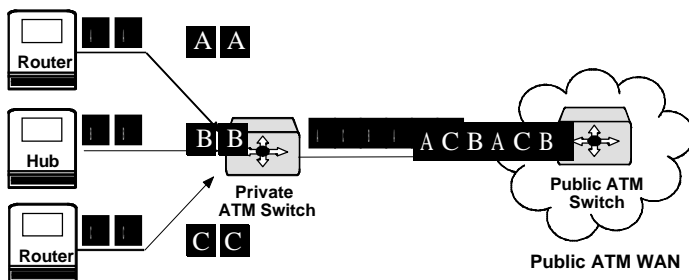

Figure 42. ATM Cell Stream
The operation of an ATM switch is very simple. ATM cells arrive on an ATM switch's interface containing a particular Virtual Path Identifier (VPI) and Virtual Channel Identifier (VCI) pair in its 5-byte header. This information uniquely identifies a traffic stream, or Virtual Channel (VC) to the ATM switch. If the ATM switch has been programmed to recognize and forward that particular stream, the ATM switch causes a new cell to be emitted on an output interface with a new VPI/VCI value. In short, an ATM switch cross-connects VCs. Figure 42 shows an ATM cell stream.